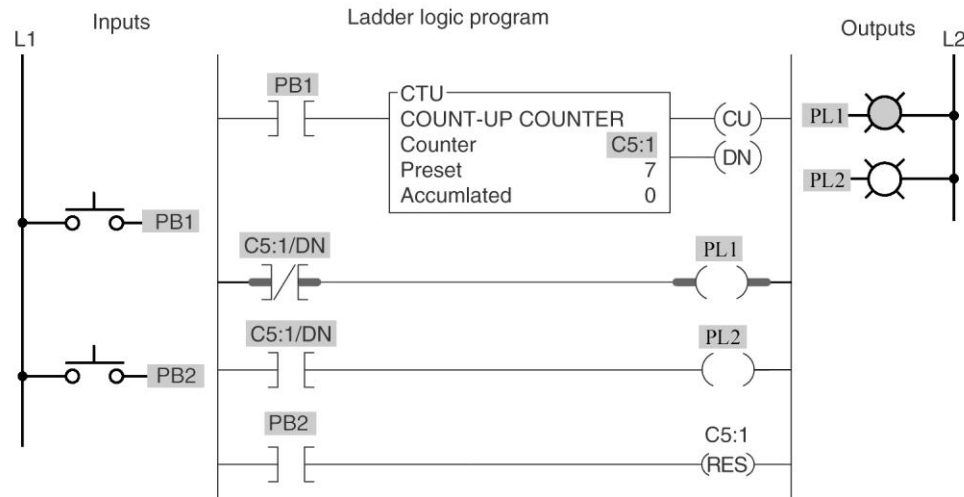

Figure 8-2 Counter program for question 19.
- 19-1. For the counter program of Figure 8-2, output PL2 will be energized 19-1.____